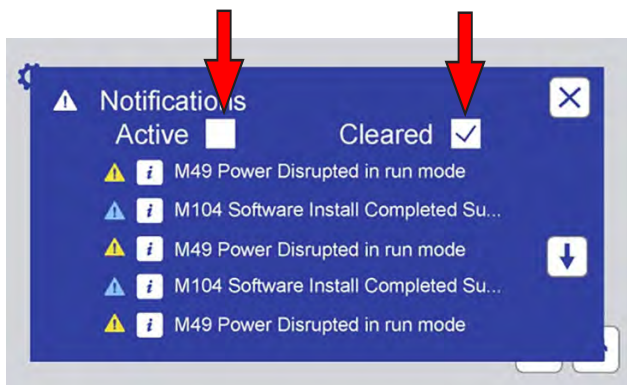
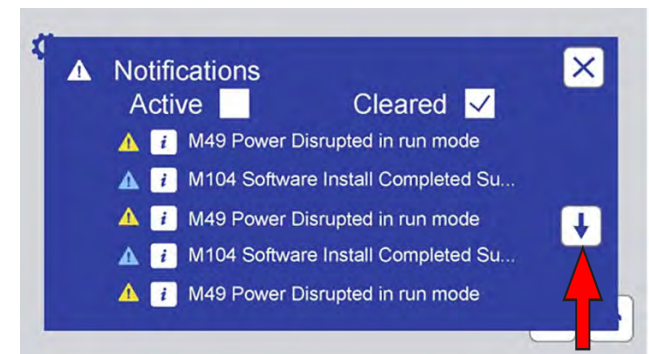

Figure 11.4c: Touch the Active or Cleared check box to view active or cleared notifications.
Figure 11.4d: Touch the scroll button(s) to move down or up the notification list.
- “Active” and “Cleared” notifications are listed separately, in chronological order, most recent at the top of the list (Figure 11.4c, Figure 11.4d).